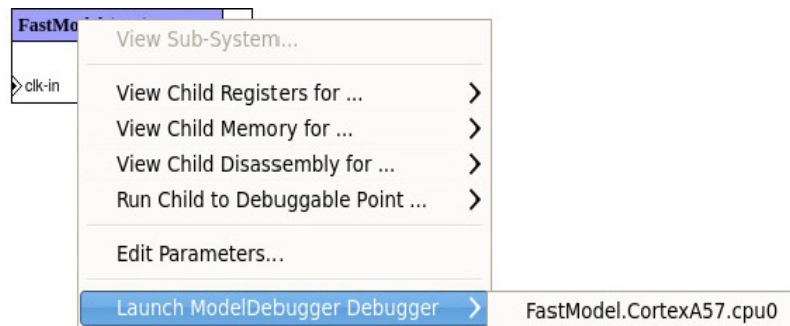

Figure 5-1 Selecting
1. Right-click on the CPU block (or "FastModel" block) to display the context menu. See Figure 5-1.